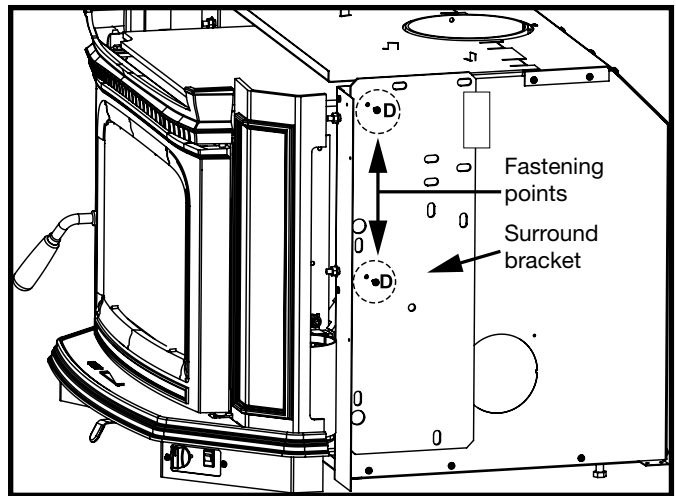
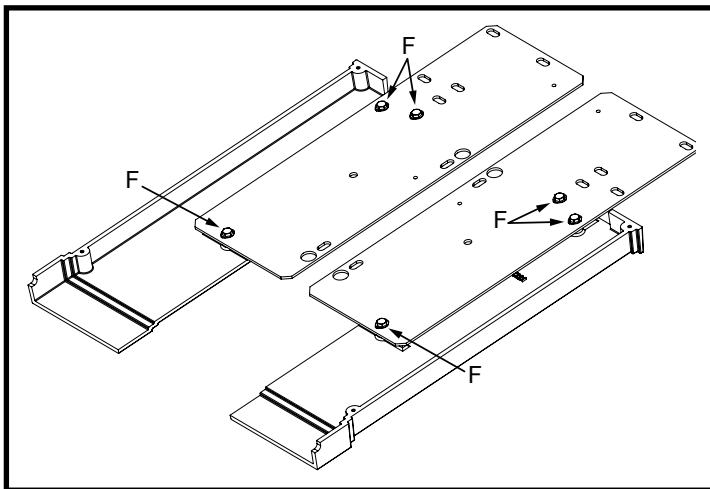

Figure 12: Removing the surround bracket.
Figure 13: Installing brackets on Surround Sides.
4. Remove the surround brackets from the stove (Figure 12). Use the bolts and washers in the mounting hardware kit, found with the Surround Top to attach the brackets to the Surround sides as shown in Figure 13.